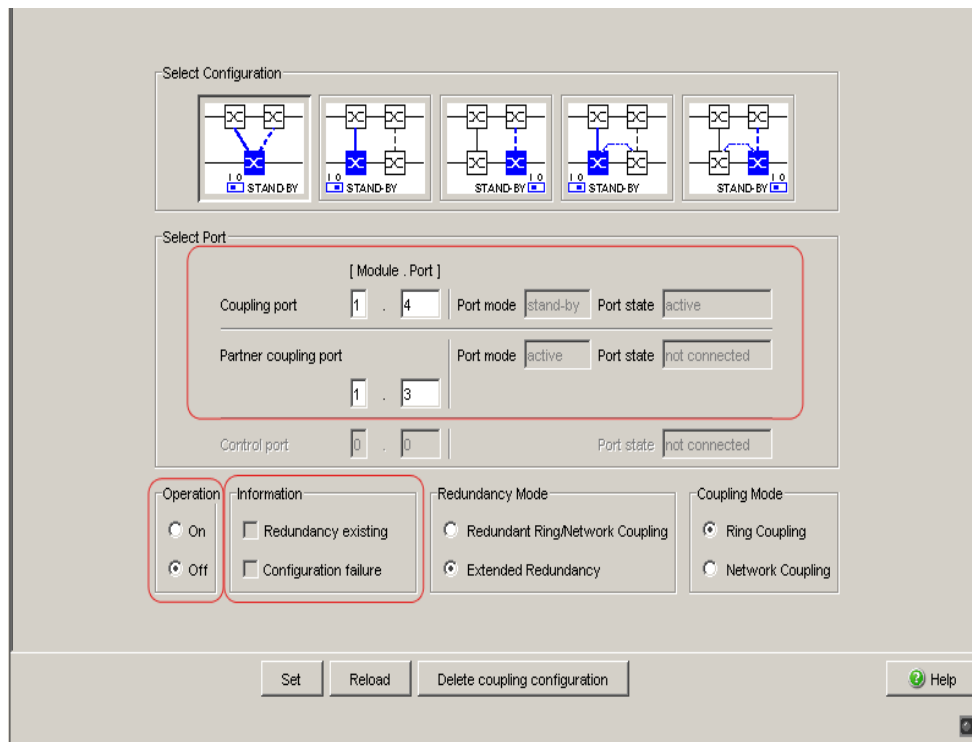

Figure 25: One-Switch coupling: Selecting the port and enabling/disabling operation
- Select the partner coupling port (see figure 25).
- Select the coupling port (see figure 25).
- Activate the function in the “Operation” frame (see figure 25)